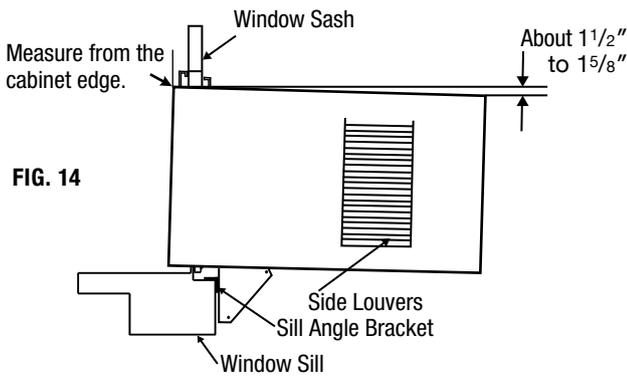

FIG. 14
**NOTE:** Check that air conditioner is tilted back about 1½" to 1⅝" (tilted about 3° to 4° downward toward the outside). If, after proper installation, condensation does not drain from the overflow drain hole during normal use, adjust slope. (Fig 14)